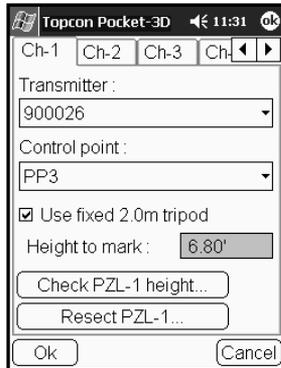

Figure 2-9. Enter Transmitter Channel and Control Point Data
7. Tap the channel tab for the connected transmitter and set the following parameters (Figure 2-9 on page 2-9):